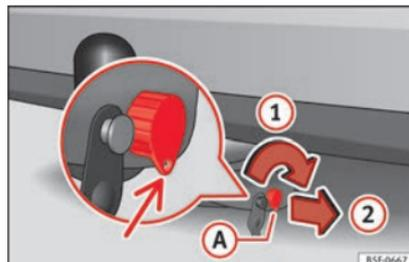
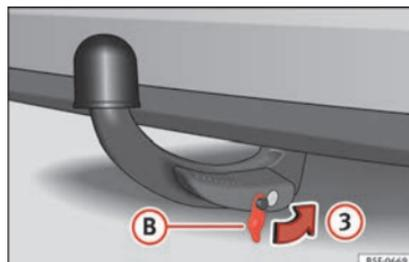

Fig. 237 Locking the lock.
Fig. 238 Placing the cover over the lock.
- Turn key A in the direction of arrow ① until the part of the key with the holes reaches the bottom position »» Fig. 237.
- Remove the key in the direction of arrow ②.
- Place cover ① in the lock in the direction of arrow ③ » Fig. 238 » ①.